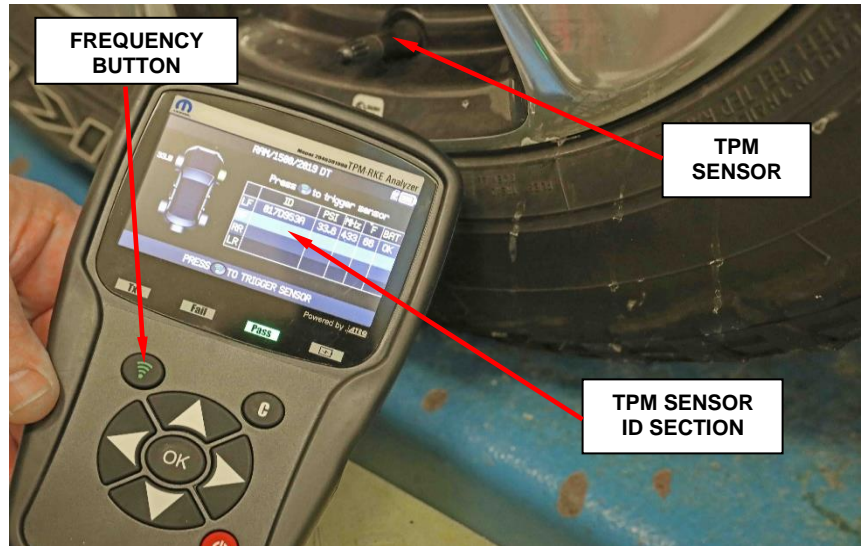

Figure 4 – TPM Screen
17. Approach the wheel selected on the TPM-RKE tool and press the “Green Frequency” button, until the TPM sensor ID is displayed on the screen (Figure 4).